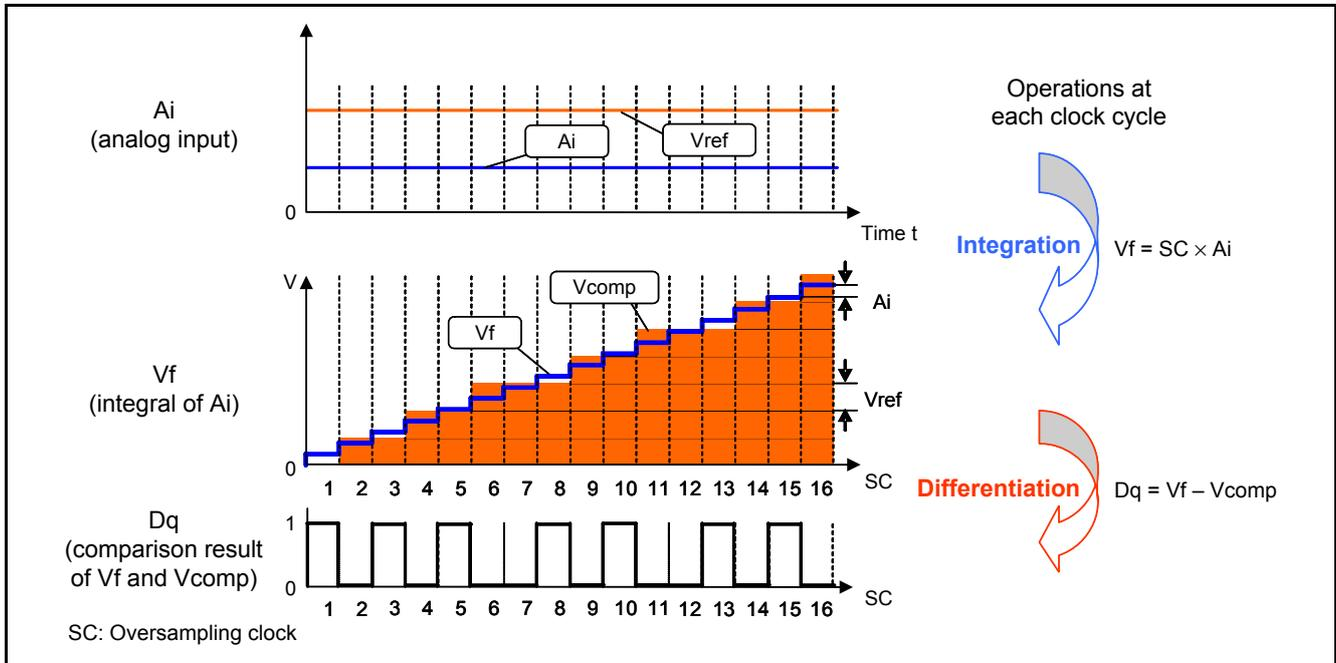

Figure 1.5 A/D Conversion by  $\Delta\Sigma$  Modulator
Figure 1.5 illustrates A/D conversion by the  $\Delta\Sigma$  modulator. The measurement of direct current (DC) voltage is described in this example. The variables are  $A_i$ , the analog input voltage to be measured,  $V_f$ , the integral value of  $A_i$ ,  $V_{comp}$ , the comparison voltage (with an initial value of 0 V),  $V_{ref}$ , the reference voltage,  $SC$ , the oversampling clock, and  $D_q$ , the comparison result.